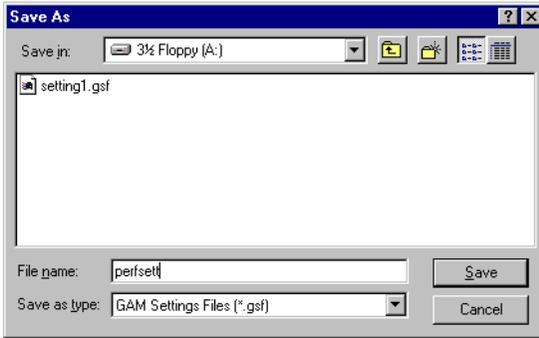

Figure 5-39. Save Settings to a File
1. Click Save Settings. A Save As dialog box is displayed (Figure 5-39).